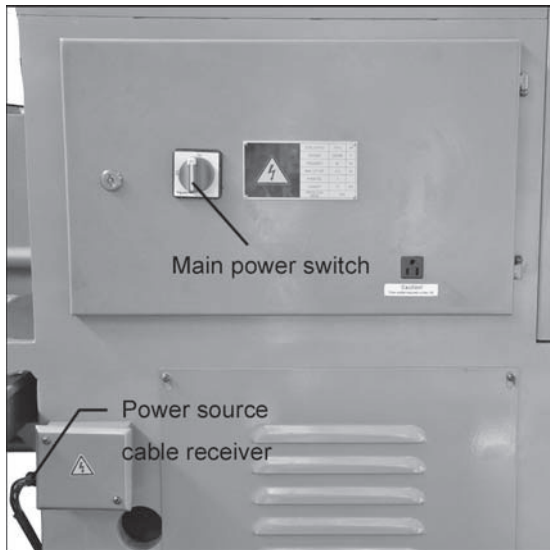

Figure 17 – Power input
**Main Power Switch** (Figure 17).
**Power Source Cable Receiver** (Figure 17).